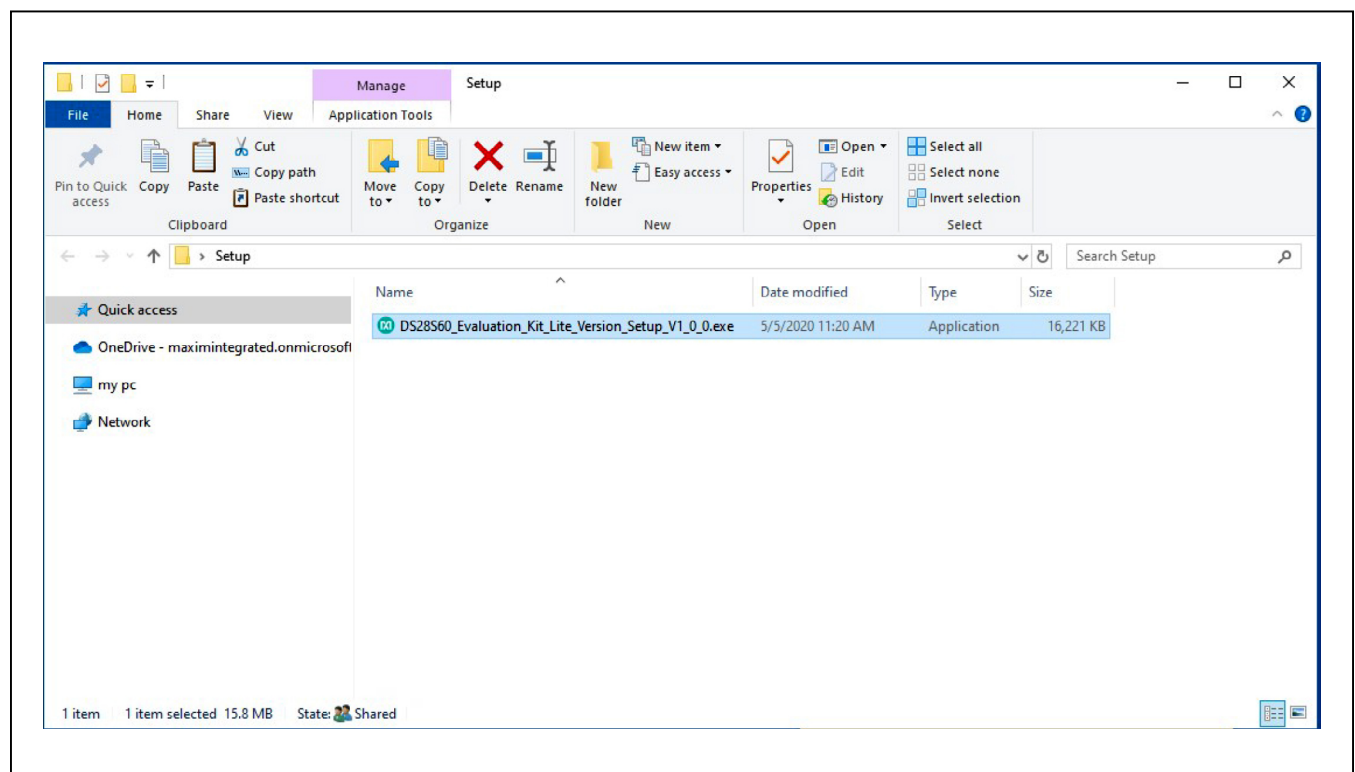

Figure 1. File Viewer
- 2) In a file viewer (Figure 1), double click on the **DS28S60 Evaluation Kit Lite Version Setup_V1_0_0.exe** file to begin the installation.